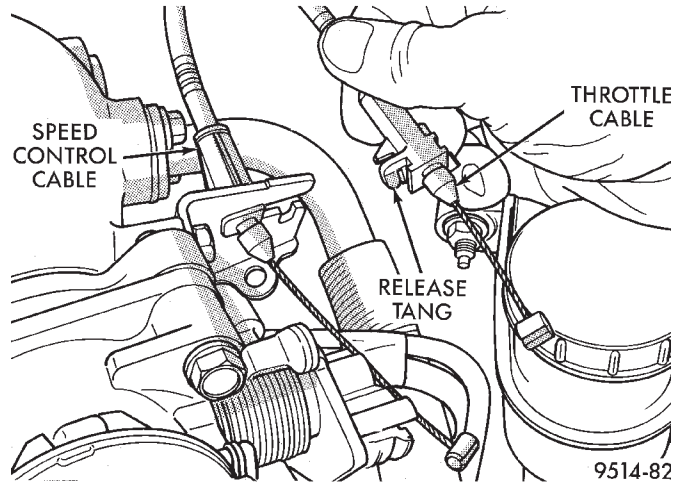

Fig. 40 Throttle Cable Attachment
- (9) Pry retainer tab back on throttle cable and slide cable out of bracket (Fig. 40). Remove cable from throttle lever.
- (10) Slide Speed control cable out of bracket, if equipped (Fig. 40). Remove cable from throttle lever.